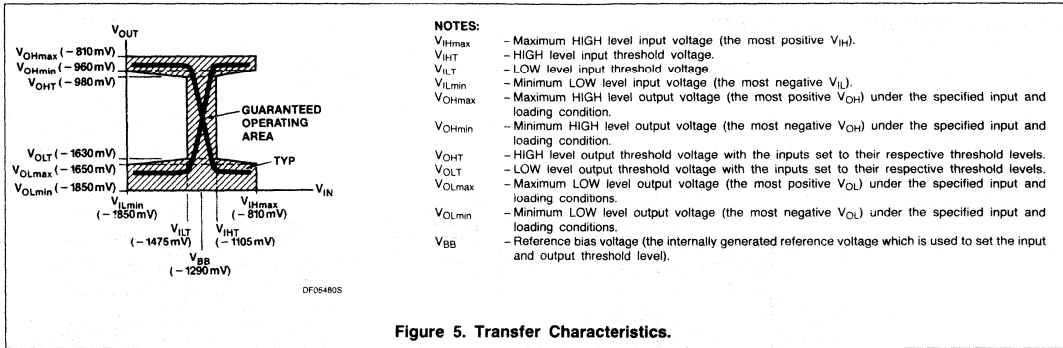

Figure 5. Transfer Characteristics.
3. The specified limits shown in the DC Characteristics can be met only after thermal equilibrium has been established. Thermal equilibrium is established by applying power for at least 2 minutes while maintaining transverse air flow of 2.5 meters/s (500 linear feet/min) over the device either mounted in the test socket or on the printed circuit board. Test voltage values are given in the DC Operating Conditions and defined in Figure 5.